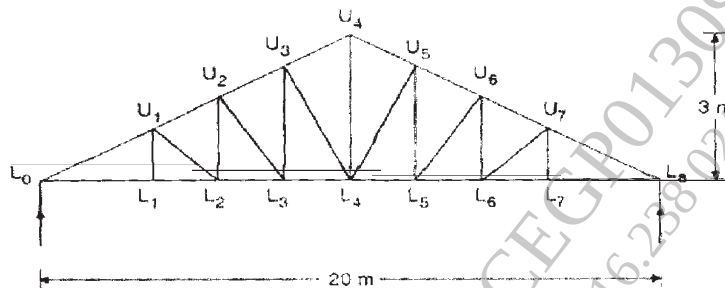

Fig. 10
- Q10)** A truss shown in Fig. 10 is used for an industrial building and spaced at 3m situated at Pune. The truss is covered with AC sheets calculate the panel point dead, live, and wind load. Design the members $L_0 L_1$, $U_1 L_1$ and $L_0 U_1$.